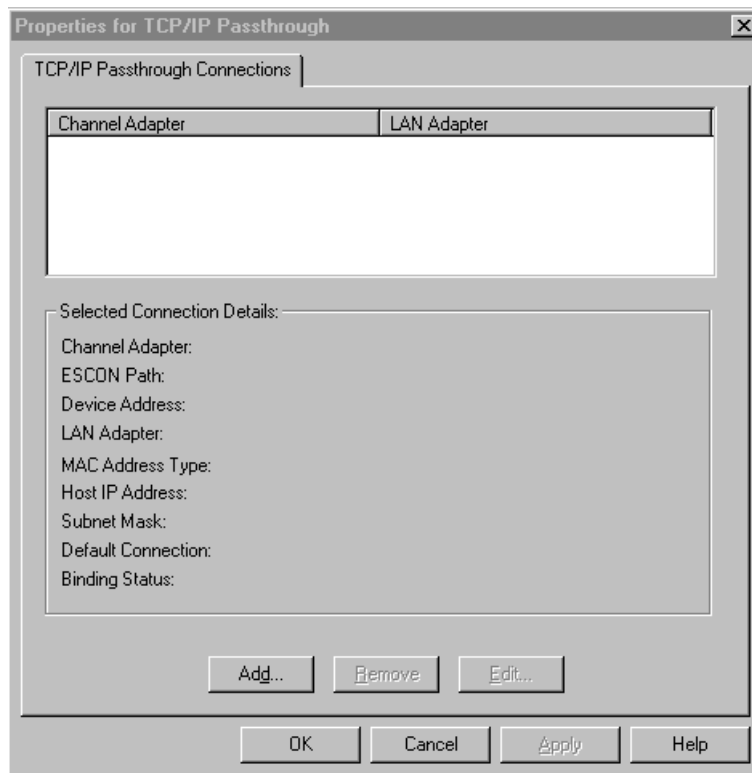
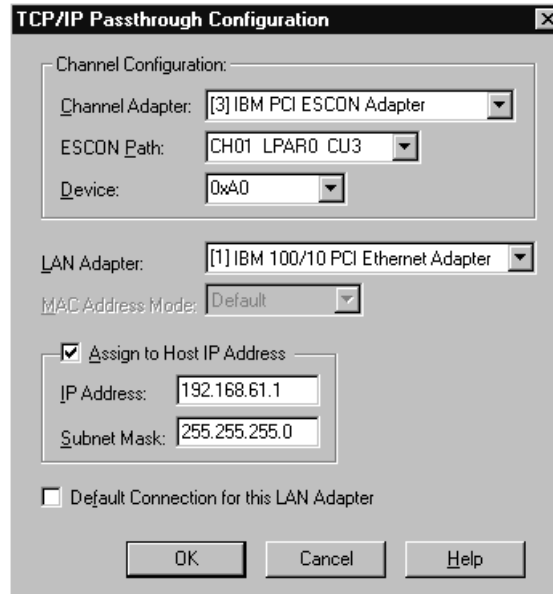

Figure 9-12. TCP/IP Passthrough Configuration
Figure 9-14. New TCP/IP Passthrough Connection Screen
3. Highlight TCP/IP Passthrough and click on Properties to configure TCP/IP Passthrough. The TCP/IP Passthrough Configuration dialog will display (Figure 9-12).
1. To add a new connection click on the **Add...** button on the TCP/IP Passthrough Properties screen (Figure 9-12). The TCP/IP Passthrough Configuration Screen will display (Figure 9-14).